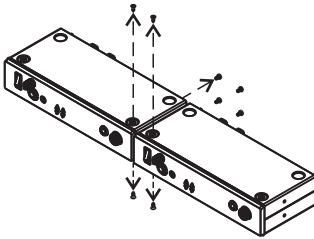

Fig. 5
- (A) Remove top and bottom screws, as Fig. 5.